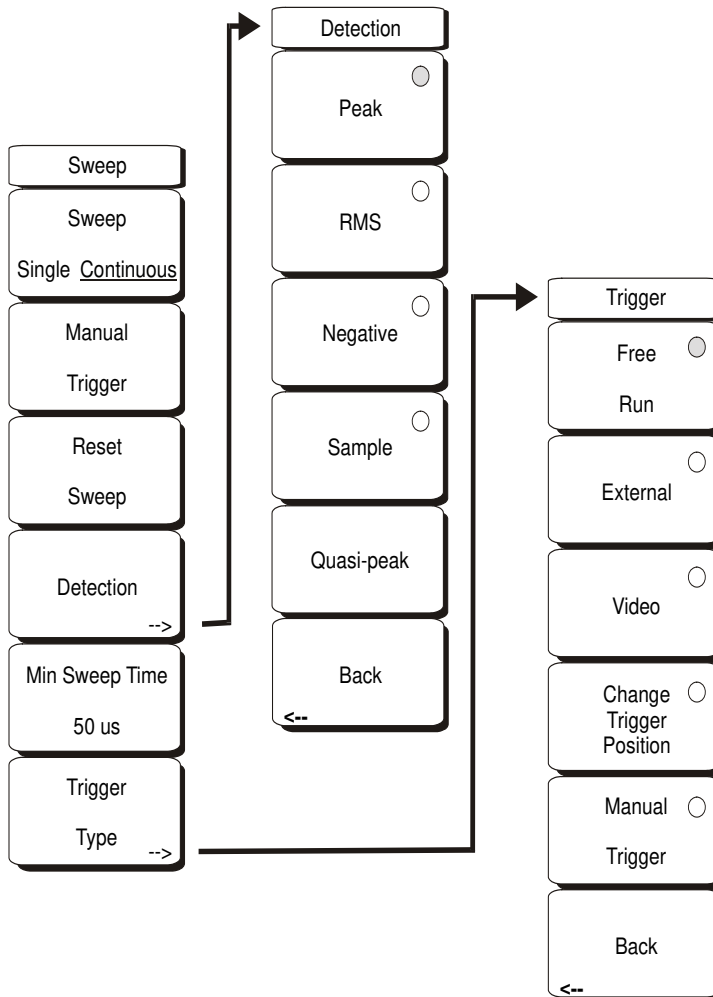

Figure 4-20. Sweep Menu Soft Keys
To access the functions under the Sweep menu, select the **Shift** key, then the **Sweep (3)** key. The Sweep menu soft keys are shown in Figure 4-20.